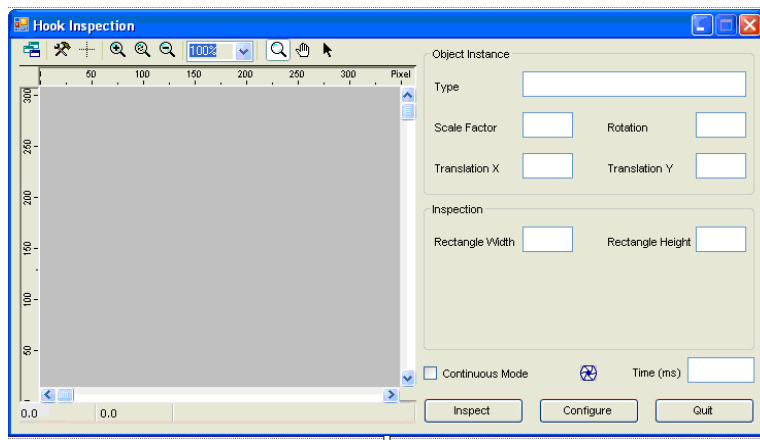

Figure 28 VB .NET Form for Tutorial 3
1. On your application form, add a group box named **InspectionFrame** and add two text boxes, the first text box named **WidthText** and the second named **HeightText**. Set up your form as illustrated in Figure 28.